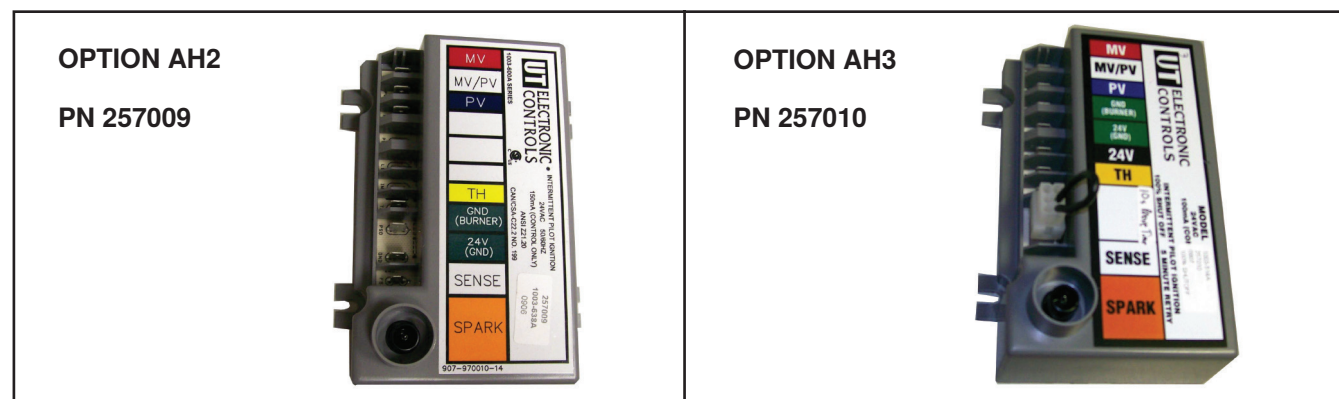

Figure 38. Obsolete Ignition Controllers
- c. Verify that pilot spark gap (see **Figure 38**) is approximately 0.100 inch (2.5 mm).
NOTE: If replacing an earlier model of ignition controller (see **Figure 38), order a replacement kit (PN 257472 for a unit with recycling gas control option AH2 or PN 257473 for a unit with gas control with lockout option AH3). Option codes are listed on the unit wiring diagram.**